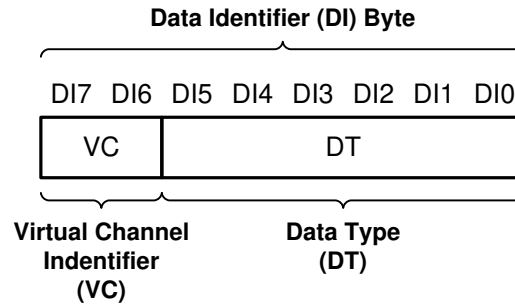

图 7-10. CSI-2 Data Identifier Structure
The DS90UB960-Q1 MIPI CSI-2 protocol interface transmits the data identifier byte containing the values for the virtual channel ID (VC) and data type (DT) for the application specific payload data, as shown in 图 7-10. The virtual channel ID is contained in the 2 MSBs of the data identifier byte and identify the data as directed to one of four virtual channels. The value of the data type is contained in the 6 LSBs of the data identifier byte. When partnered with a DS90UB935-Q1 or DS90UB953-Q1 serializer, the Data Type is passed through from the received CSI-2 packets. When partnered with a DS90UB933-Q1 or DS90UB913A-Q1 the received RAW mode data is converted to CSI-2 Tx packets with assigned data type and virtual channel ID.